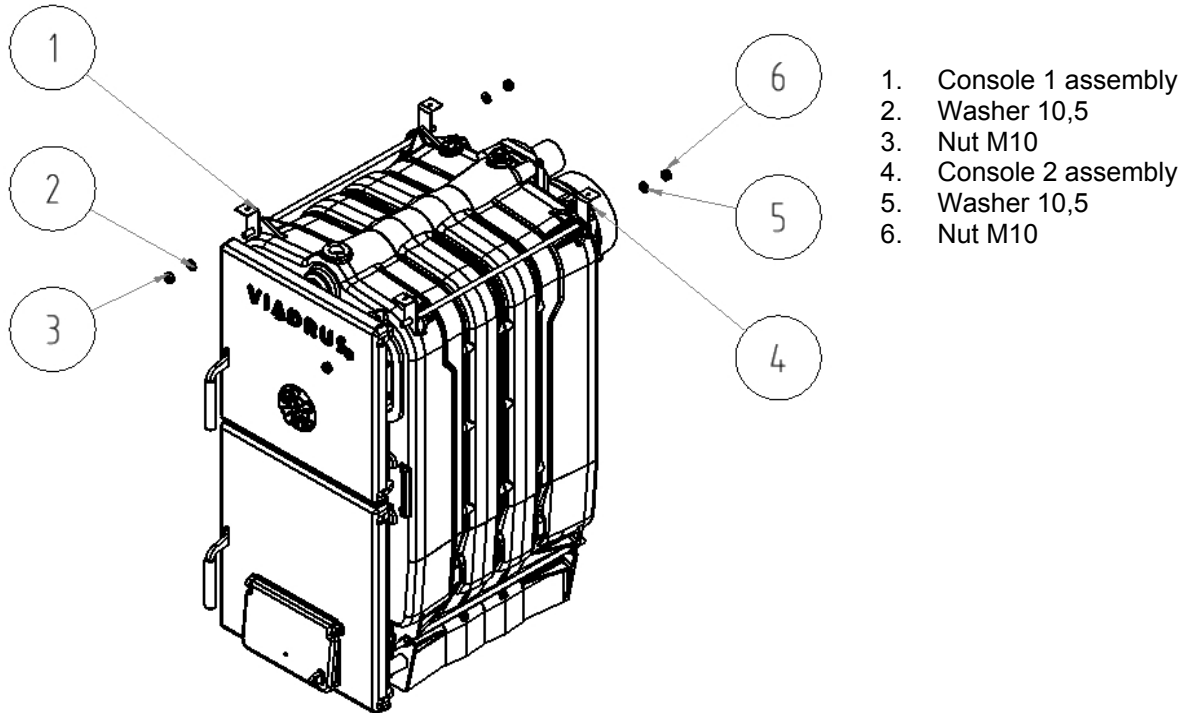

Fig. No. 11 Assembly of jacket consoles
2. Put the consoles 1 (1) and 2 (4) on the thread of the right upper anchor screw and screw them by means of two nuts M10 (6) and two washers 10,5 (5) - (see Fig. no. 11).
3. Put the consoles 1 (1) and 2 (4) on the thread of the left upper anchor screw and screw them by means of two nuts M10 (6) and two washers 10,5 (5) - (see Fig. no. 11).